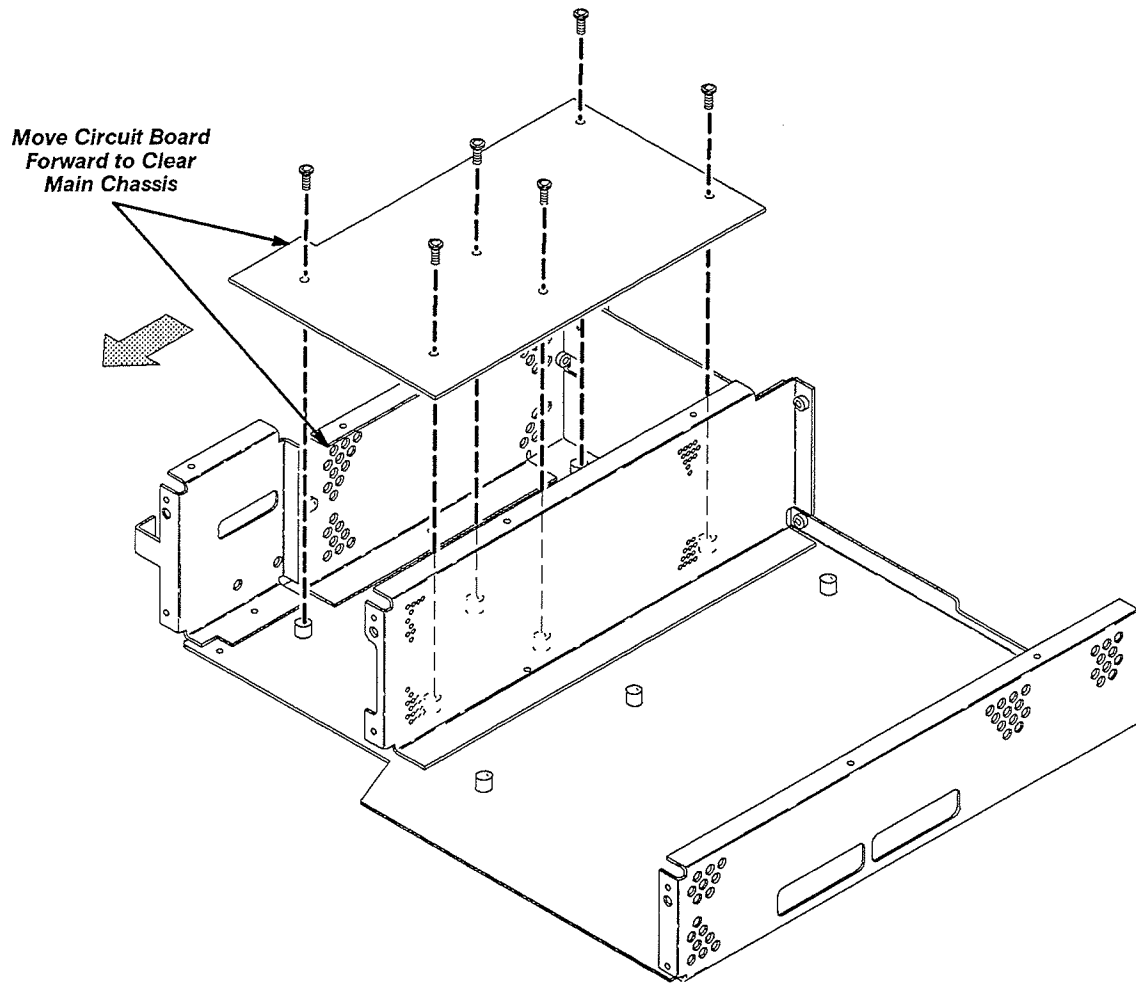

Figure 6-19: Display Driver Board Removal
5. *Remove the display supply board:* Use Figure 6-19 as a guide.